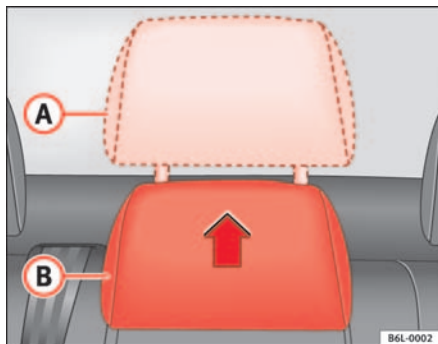

Fig. 5 Adjusting central rear head restraint
- Raised position or position for use (A) ⇒ fig. 5. In this position, the head restraint is used normally, protecting the occupant of the rear central seat, along with the rear seat belts.
- Rest position (B) ⇒ fig. 5. This position improves the driver's rear visibility.